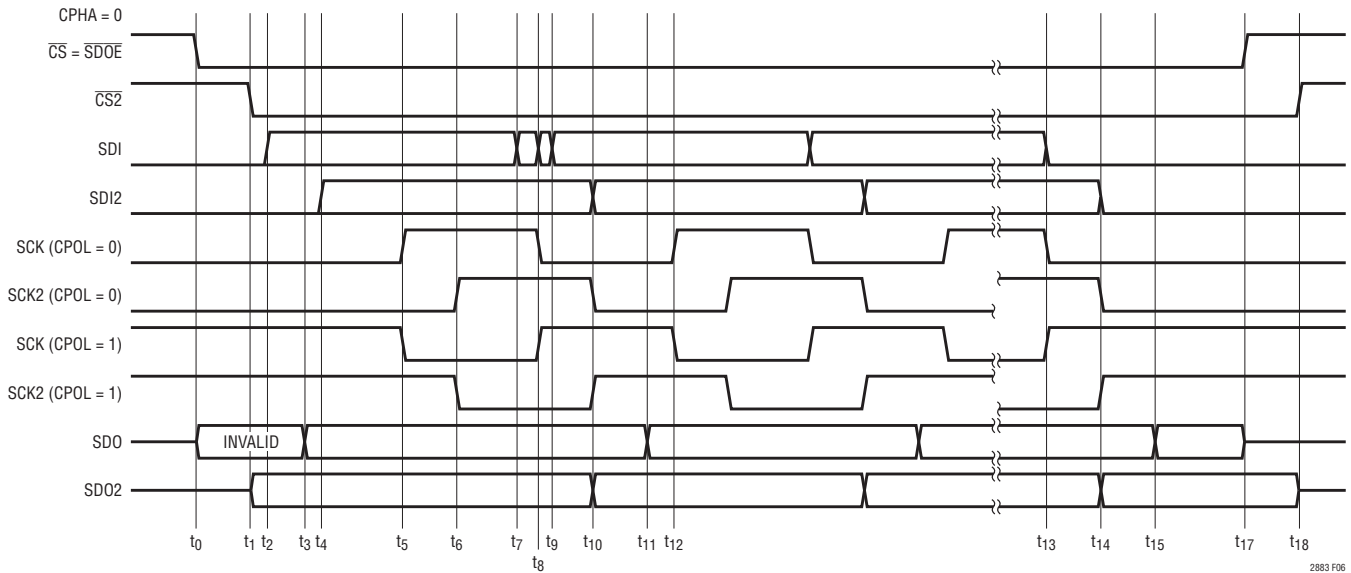
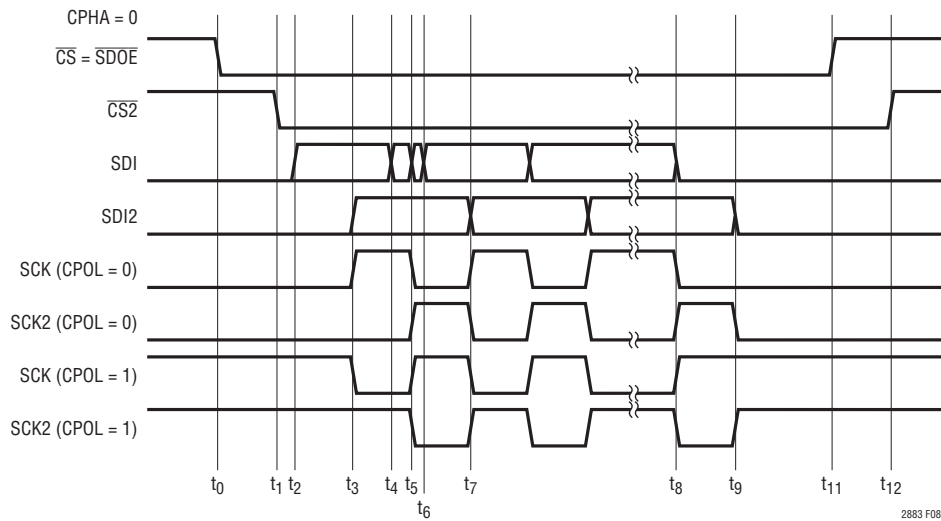

Figure 6. SPI Timing, Bidirectional, CPHA = 0
Figure 8. SPI Timing, Unidirectional, CPHA = 0
The maximum data rate for bidirectional communication is 4MHz, based on a synchronous system, as detailed in the timing waveforms. Slightly higher data rates may be achieved by skewing the clock duty cycle and minimizing the SDO to SCK set-up time, however the clock rate is still dominated by the system propagation delays. A discussion of the critical timing paths relative to Figure 6 and 7 follows.
Maximum data rate for single direction communication, master to slave, is 8MHz, limited by the systems encoding/decoding scheme or propagation delay. Timing details for both variations of clock phase are shown in Figures 8 and 9 and Table 4.
- SDI and SCK set-up data transition occur within the same data packet. Referencing Figure 6, SDI can precede SCK by up to 13ns ( $t_7 \rightarrow t_8$ ) or lag SCK by 3ns ( $t_8 \rightarrow t_9$ ) and not violate this requirement. Similarly in Figure 8, SDI can precede SCK by up to 13ns ( $t_4 \rightarrow t_5$ ) or lag SCK by 3ns ( $t_5 \rightarrow t_6$ ).